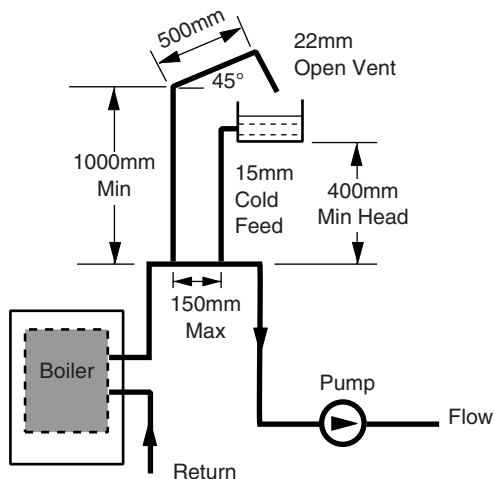

Fig. 8 Typical Low Head Installation
1. Using a close couple arrangement the minimum head is as shown in the diagrams (Figs. 8 & 9) subject to the following conditions: